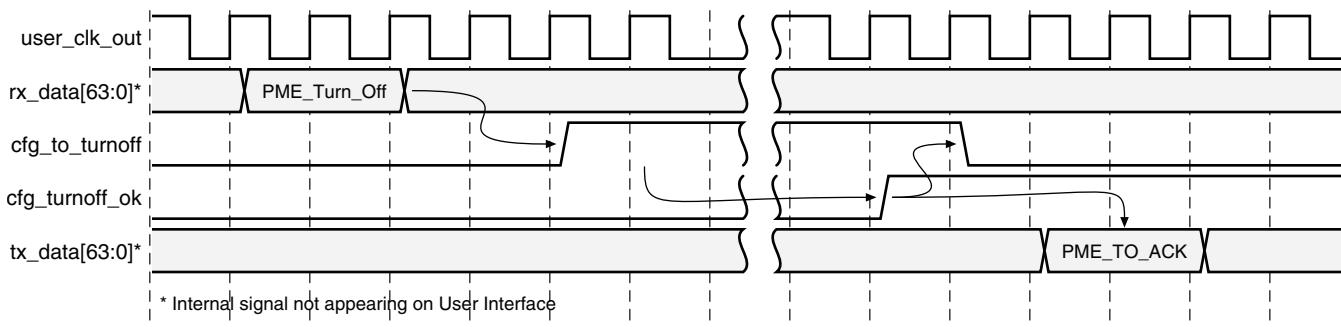

Figure 3-67: Power Management Handshaking: 64-Bit
4. The core sends a PME_TO_Ack when it detects assertion of cfg_turnoff_ok, as displayed in Figure 3-67 (64-bit).